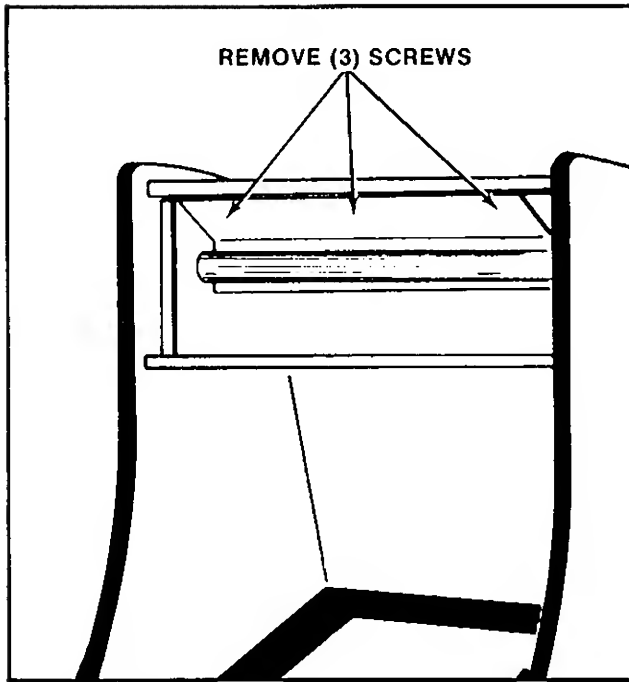

Figure 3-8 Replacing Fluorescent Tube Mounting Bracket
- ☐ Replacement of the fluorescent tube mounting bracket assembly. See Figure 3-8.